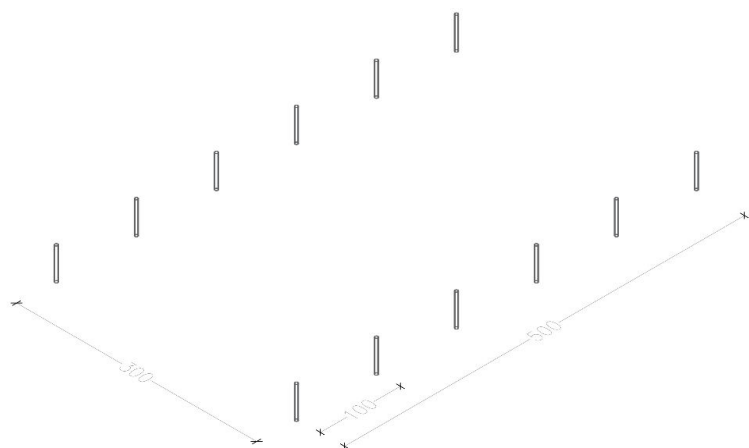

Figure 1
1. Drive the foundation pipes into the ground along the string using wooden spacer (wooden blocks), in two parallel rows, 3m apart from each other, with a spacing of 1m in each row (Fig. 1).